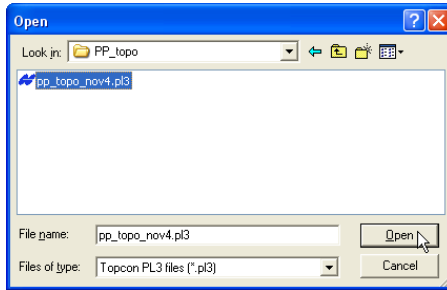

Figure 7-1. Open 3D Plane Surface File
2. On the *Open* dialog box, navigate to the location of the desired file, select it, and click **Open** (Figure 7-1 on page 7-2). The plane surface from the selected file is added to the 3D Project file.